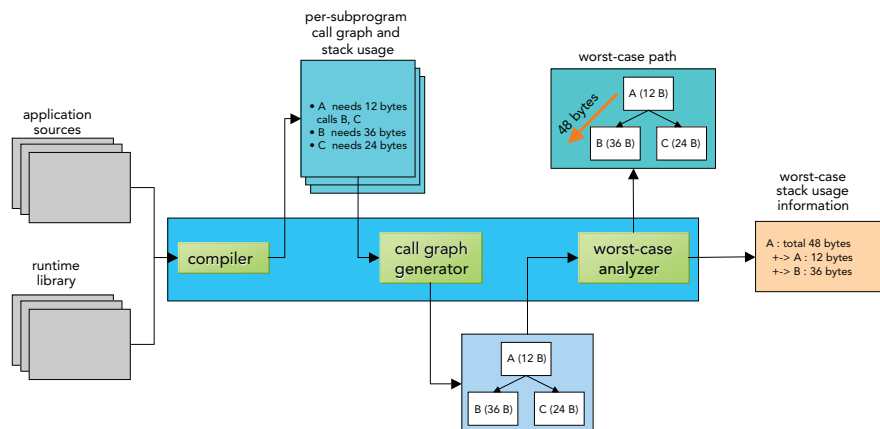

Figure 1
3. Analyzing worst-case stacks for any entry point in the application (see Figure 1)